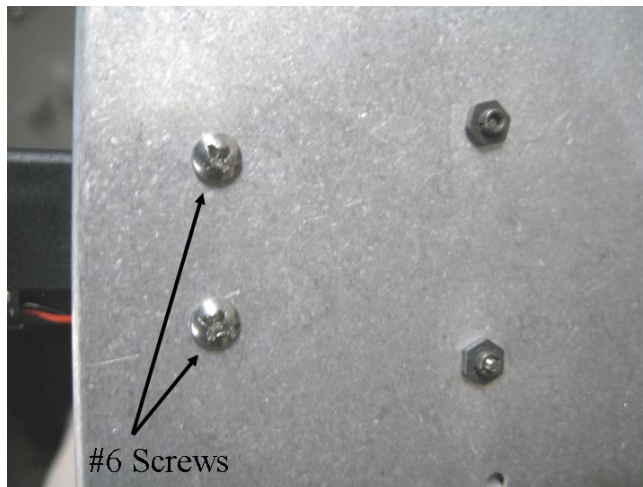

FIGURE H-9. Self-tapping screws attaching pump to metal box
9. Gently lift the pump assembly from foam, leaving the tubes attached. Turn it over and remove the two self-tapping #6 screws that attach the pump to the metal box, as shown in FIGURE H-9. If these screws become lost or damaged, replace them with pn 13535.
2. Reattach the pump to metal box with two self-tapping #6 screws on the back of the pump module electronics plate (FIGURE H-9).